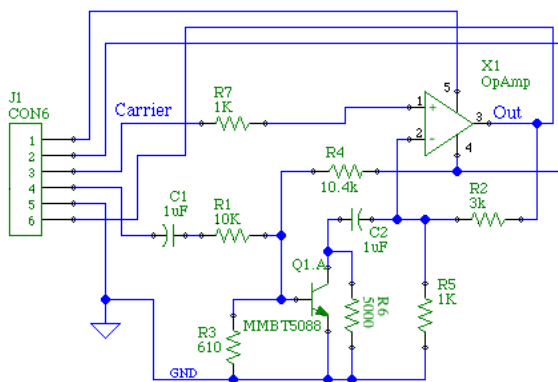

Figure 1-5 • Op-Amp Based AM Modulator Circuit.
12. Complete the wiring of the circuit as shown in Figure 1-5.